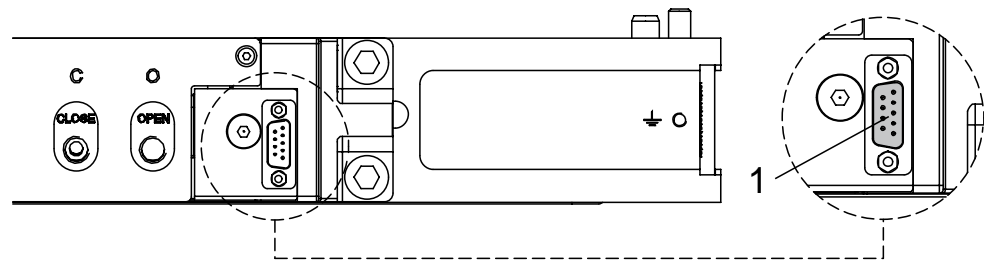

Figure 5-2 Bottom view
2. Disconnect D-sub plug from valve; see «Figure 5-2».